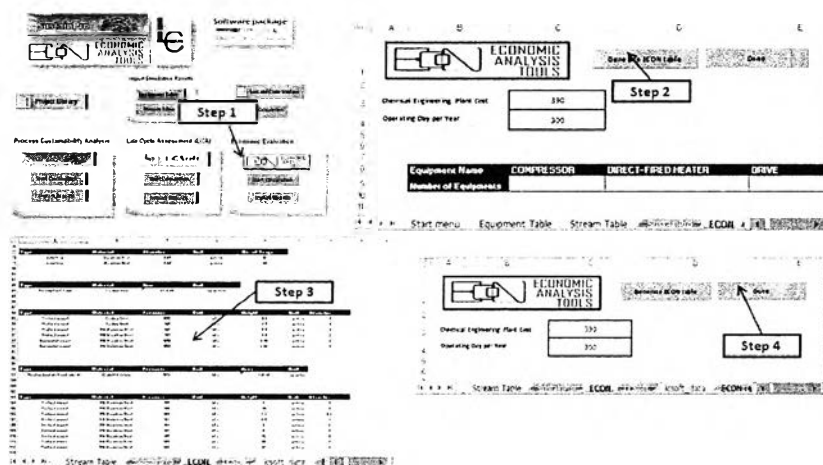

Figure B.24: Steps to perform economic evaluation
Step 1: Click “ECON” button in “Start menu” page (Figure B.24).